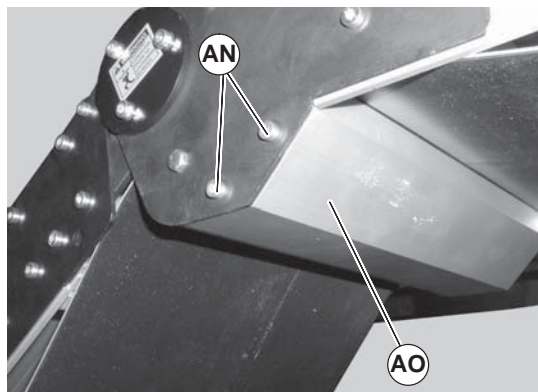

Figure 24
5. Remove screws (Figure 24, item AN) on both sides of knuckle and remove guard (AO).